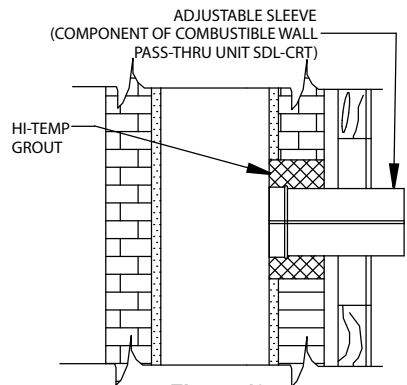

Figure 42
Step 5: If you are only installing a Wall Pass-Through Installation, and not connecting to a DuraLiner Tee and Pipe, complete Step 5. Otherwise, go to Step 6. Push the Adjustable Sleeve through the masonry until the end is flush with the inside of the flue liner. Grout in place with a high temperature grout, as shown in **Figure 42**. Skip to Step 9 of this addendum, and complete Steps 9 thru 14.